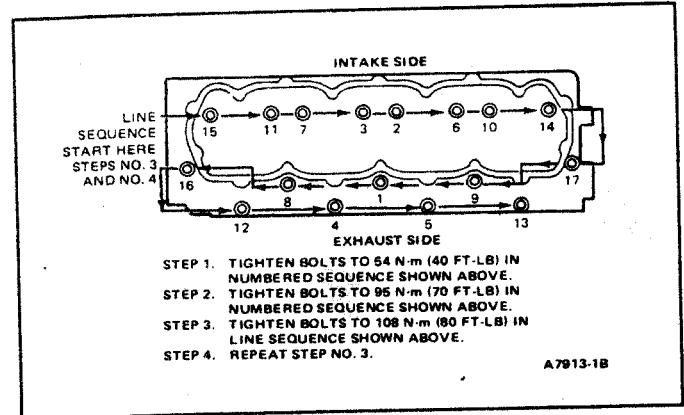

FIG. 62 Cylinder Head Bolt Tightening Sequence
9. Install cylinder head attaching bolts and tighten to specifications using the four step method given in Fig. 62.